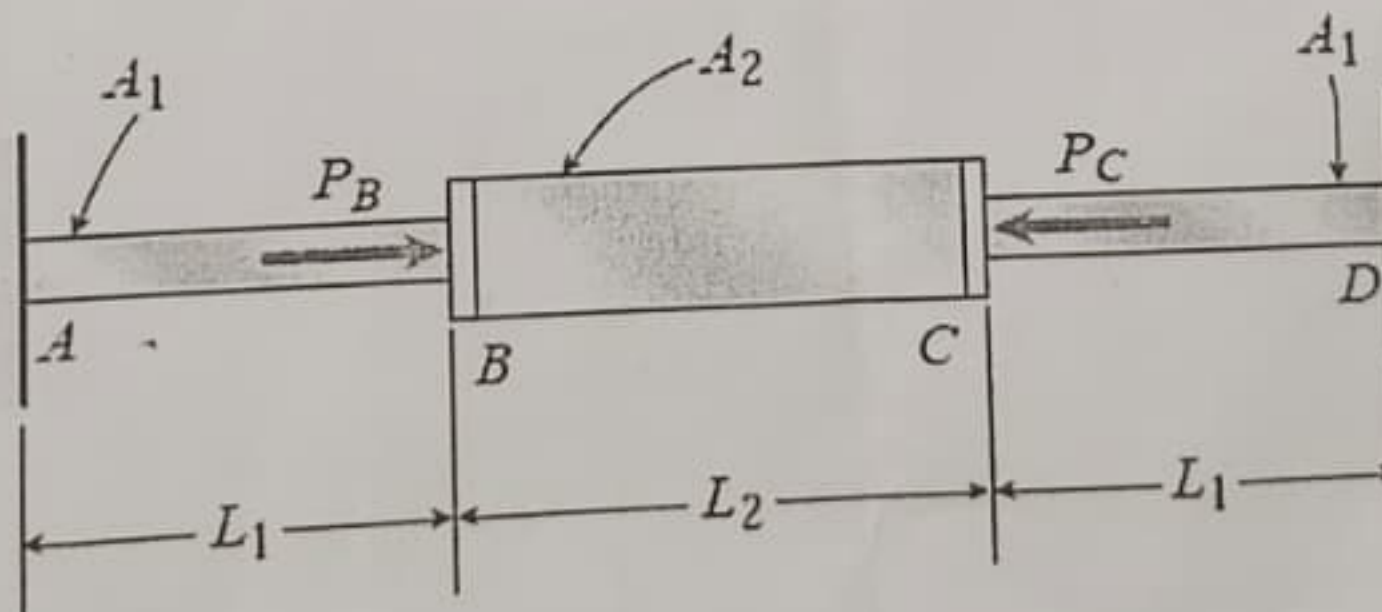

Figure. 1
1. The fixed-end bar ABCD shown in figure 1 consists of three prismatic segments. The end segments have cross-sectional area $A_1 = 840 \text{ mm}^2$ and length $L_1 = 200 \text{ mm}$. The middle segment has cross-sectional area $A_2 = 1260 \text{ mm}^2$ and length $L_2 = 250 \text{ mm}$. Loads P_B and P_C are equal to 25.5 kN and 17.0 kN , respectively. (a) Determine the reactions R_A and R_D at the fixed supports. (b) Determine the compressive axial force F_{BC} in the middle segment of the bar.